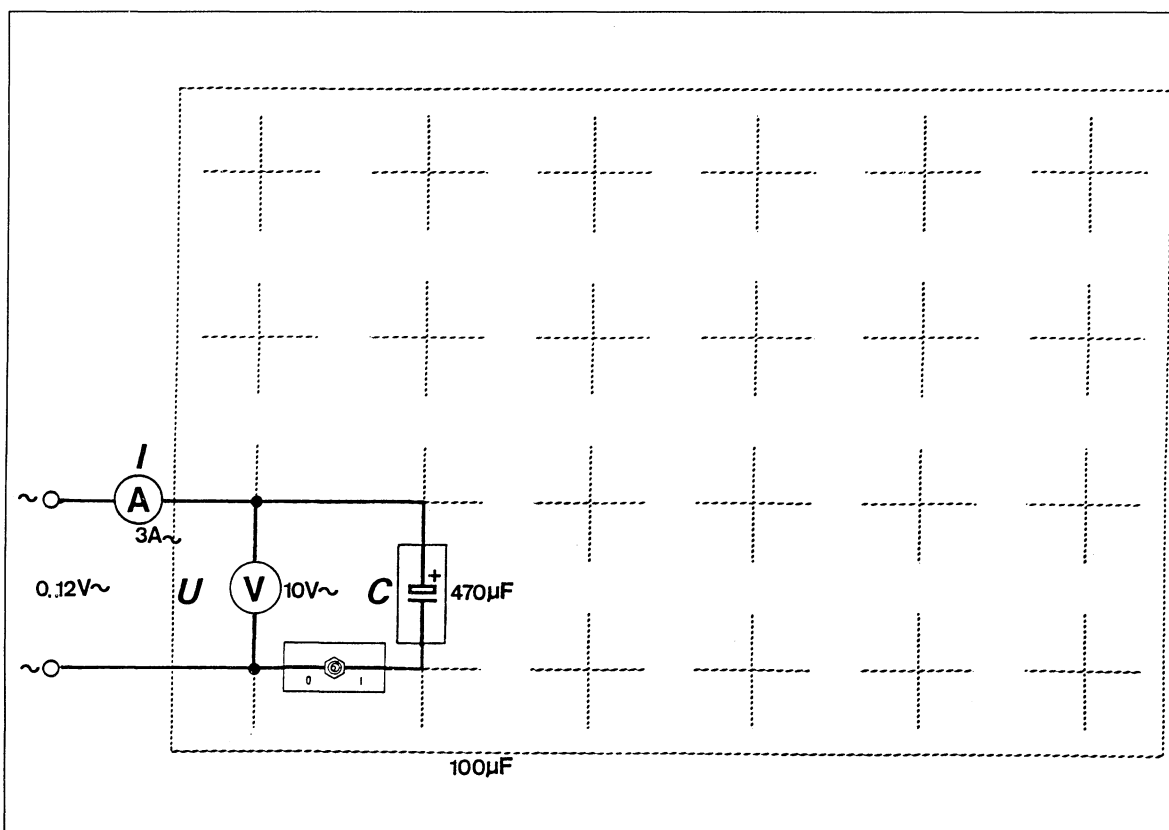

Fig. 1 Experiment setup: capacitor in an AC circuit
1. Assemble the circuit as shown in Fig. 1. At the start, the switch should be in the open position (position 0). Set the voltage at the power supply to voltage level 0.